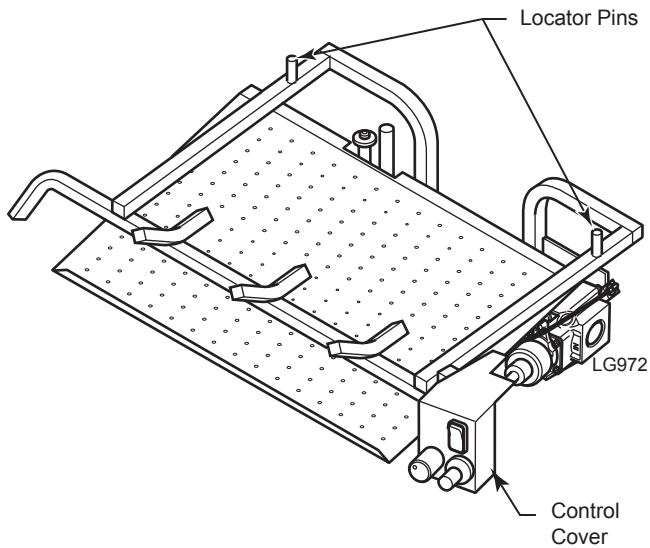

Figure 30
2. Place back log (#1) on back of grate aligning two (2) pins on grate with holes in bottom of log. *Figure 30*